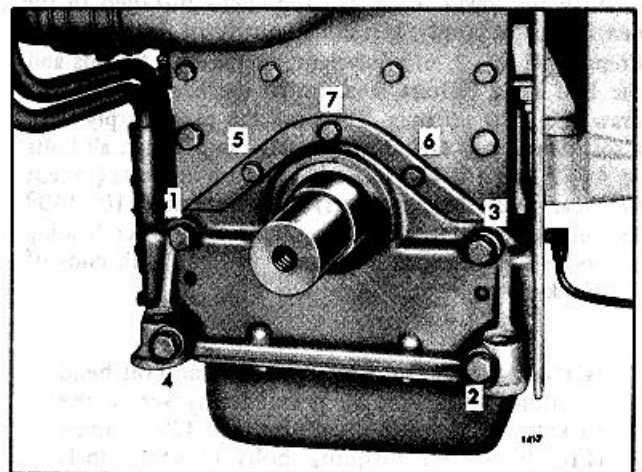

Fig. 3. Crankshaft Front Cover Bolt Tightening Sequence
5. Tighten the cover attaching bolts by following the tightening sequence indicated in Fig. 3. Follow this sequence as the bolts are drawn up and then tightened to their proper torque to effect a good seal between the mating parts. Tighten the 3/8" -24 bolts to 25-30 lb-ft